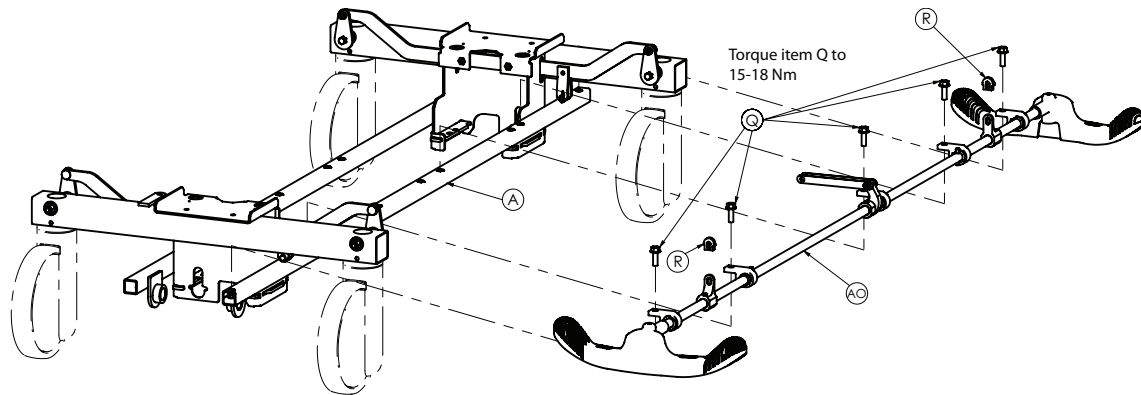

Figure 7 – Brake rod replacement
3. Remove and save the brake rod crank caps (R) (Figure 7).
- Use a 13 mm socket wrench and a 3/8" drive ratchet to remove the five hex head bolts (Q) that secure the brake rod supports to the brake rod assembly (Figure 7).